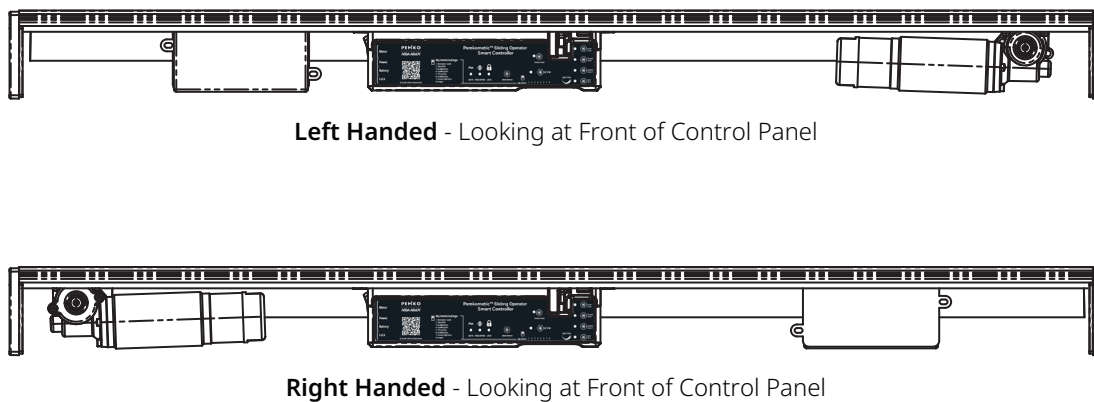

Figure 9: Handing of Sliding Operator
8. Reattach the control panel facing opposite the brush as in Fig 9.